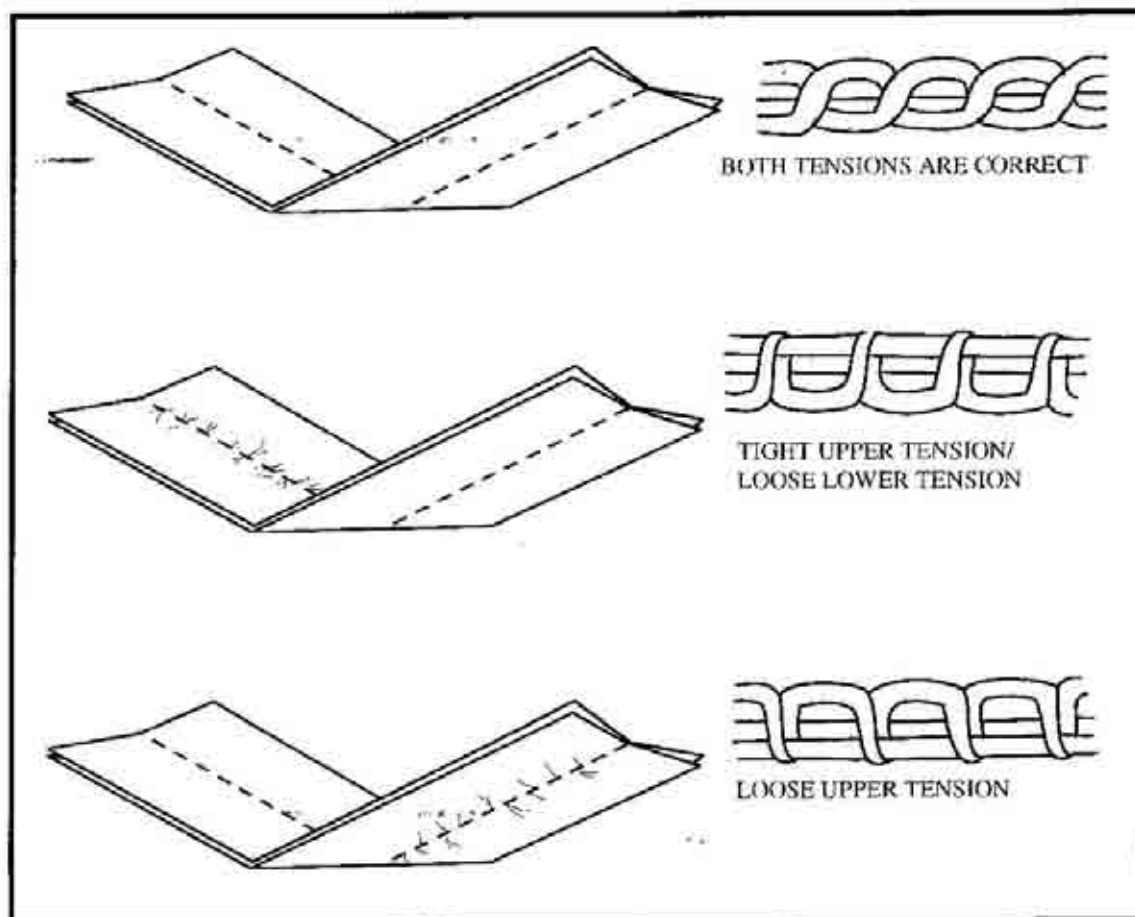

Figure 3-6. Thread tension
e. **Tension.** Tension is the amount of stress put on a thread. When the tension between the top thread and the bottom thread is correct and balanced, the connecting link of each lockstitch is in the center (Figure 3-6). The stitches look the same on both sides. When there is too much tension on the top thread or too little on the bottom thread, the link is on the bottom. When there is too much tension on both threads, the fabric puckers and the stitches break. When there is too little tension on both threads, the stitches have too much play, the threads form loops, and the seam is weak.